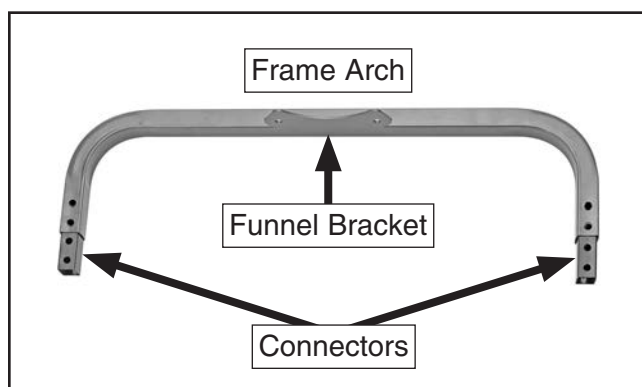

Figure 7. Connectors installed in frame arch.
7. Locate (1) frame arch (see **Figure 7**) and install (2) connectors. Funnel bracket should be facing up, as shown below.